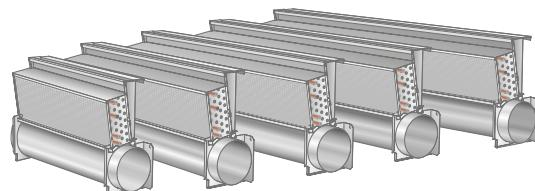

Figure 5. Range available on order.
(figure 5)
- Primo with front position distribution pipe (figure 5).